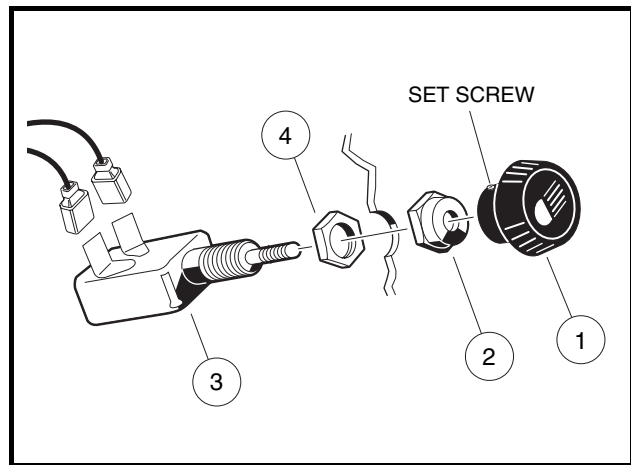

Figure 12-31 Light Switch
3. Loosen the set screw locking the light switch knob (1) to the shaft (**Figure 12-31, Page 12-27**).
6. Remove the outer nut (2) from the light switch (3) and remove (**Figure 12-31, Page 12-27**).
2. Thread the check nut (4) onto the switch until an equal number of threads show on both sides. Install to the dash panel with nut (2) on the outside of the dash and tighten the nut to 14 in-lb (1.6 N·m) (**Figure 12-31, Page 12-27**).